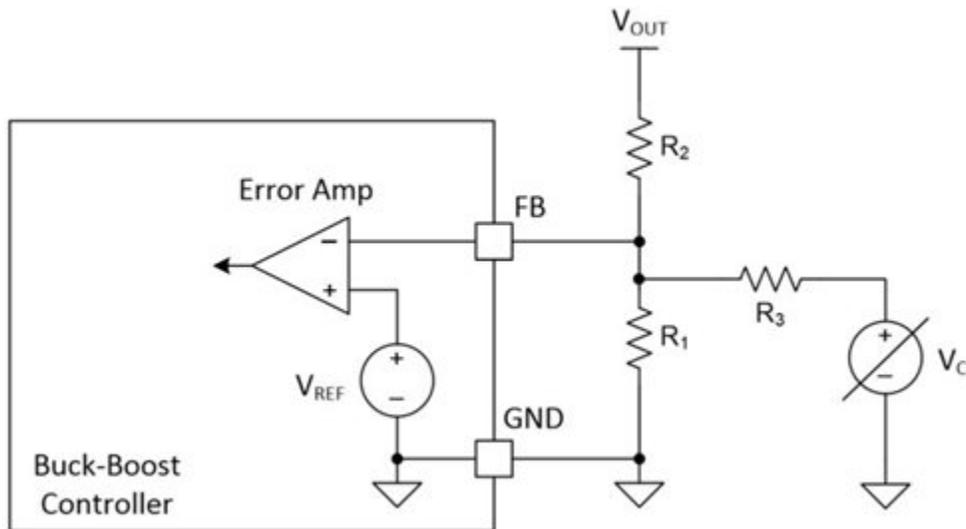

Figure 1. Adjusting V_{OUT} with a modulated voltage source
Figure 1 shows an example in which a modulated voltage source (V_C) alters the feedback (FB) pin voltage. Therefore, Equation 1 determines the V_{OUT} :